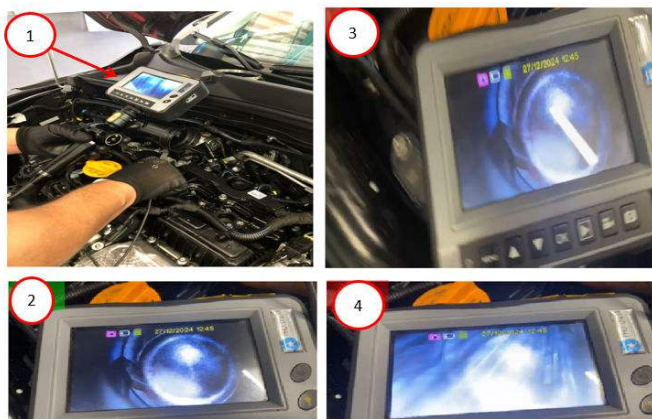

Fig. 2
- Using an Endoscope, check all the injectors Fig. 2. With the help of a collaborator, ask him/her to cycle the ignition without starting the vehicle. **Keep the ignition on for one minute per injector.**